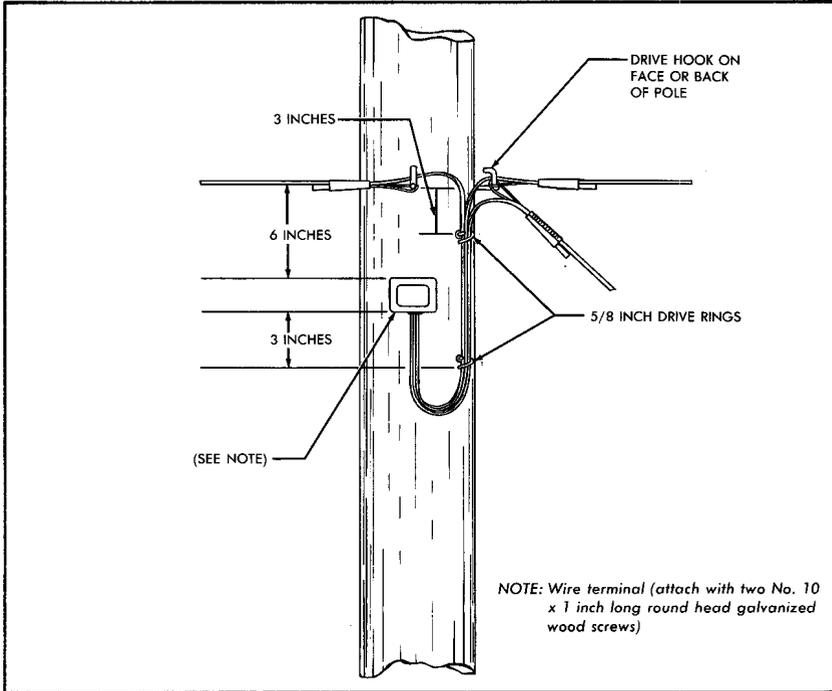

FIGURE 7. Party Line Tap Along The Lead
6.01 A party line tap along a pole-to-pole drop wire run is to be made where several spans of drop wire would otherwise be used. Make the party line taps as illustrated in Figure 7.